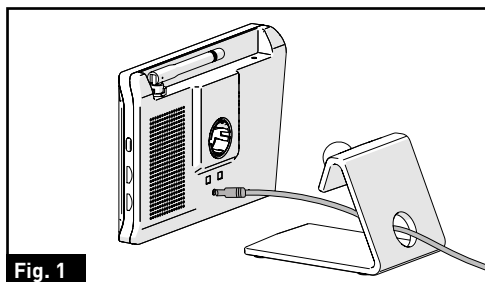

Fig. 1
2. Mark a basic outline on the wall using the provided mounting bracket. (Fig. 1)